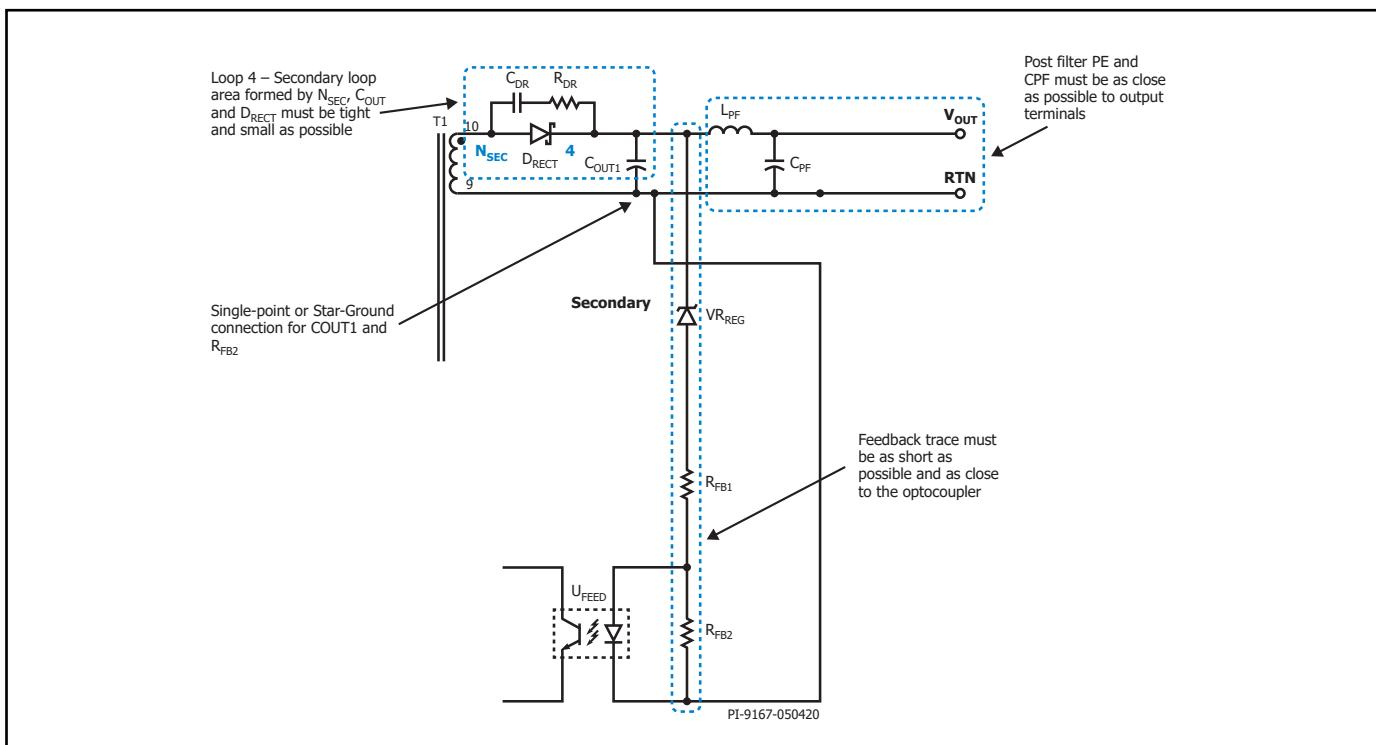
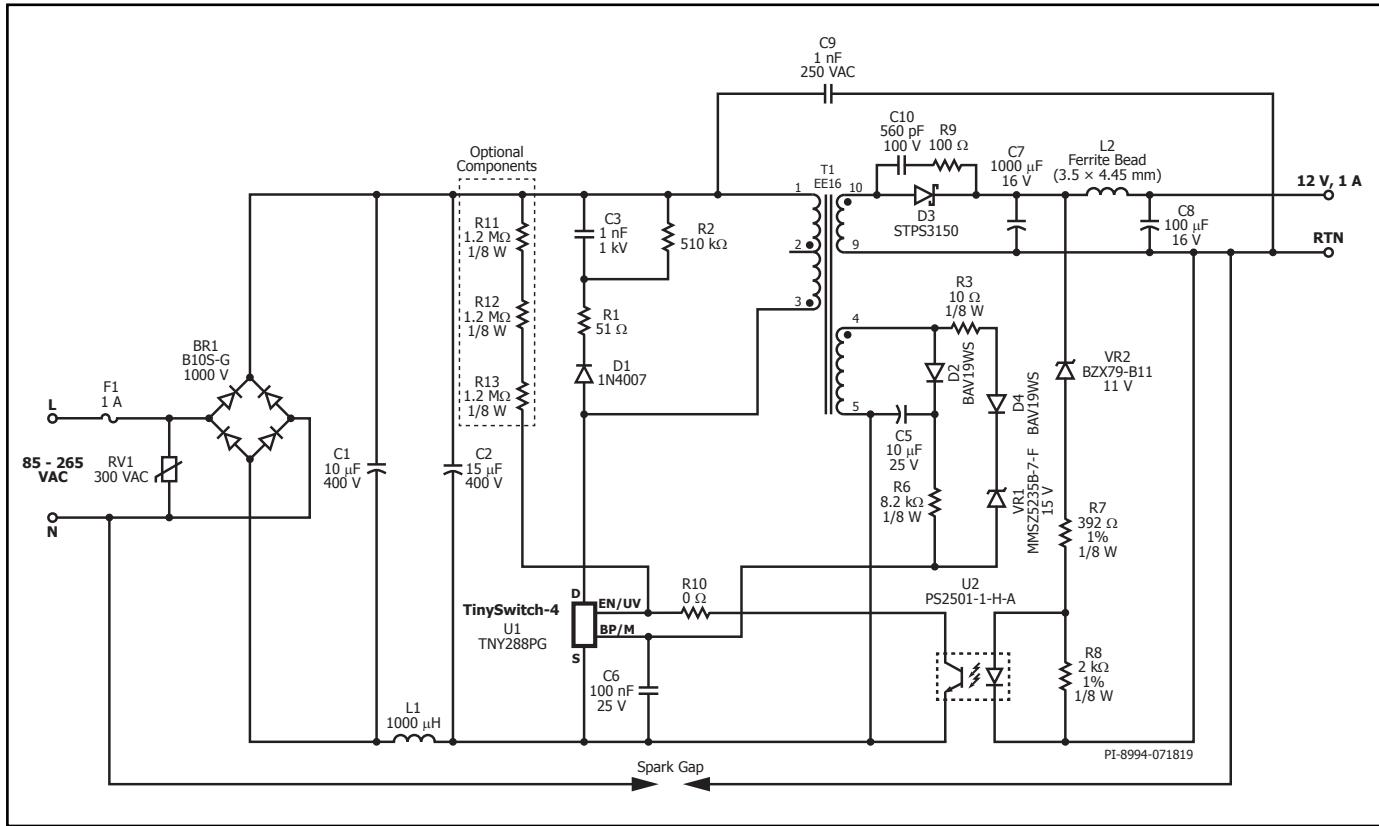

Figure 40. Secondary-Side Typical Schematic of TinySwitch-4 Showing Critical Loops Area, Critical Component Traces and Single-Point or Star Grounding.
Figure 46. Schematic of RDR-839 12W, 12V Power Supply Using TinySwitch-4 TNY288PG.
2. Use a Y capacitor connected from either positive or negative output terminals to the input bulk capacitor's positive terminal. In reference design RDR-839 as shown on Figure 46 schematic, traces routing of Y capacitor C9 is directly to bulk capacitor positive terminal of C2 and the other end directly to RTN output terminal. See Figure 40 and 41 for layout and component placement reference and Figure 38 (C_Y as Y capacitor) for schematic reference.
The circuit shown in Figure 46 is a low-cost, high efficiency, flyback power supply designed for 12 V, 1 A output from universal input (85 VAC to 265 VAC) using TNY288PG.